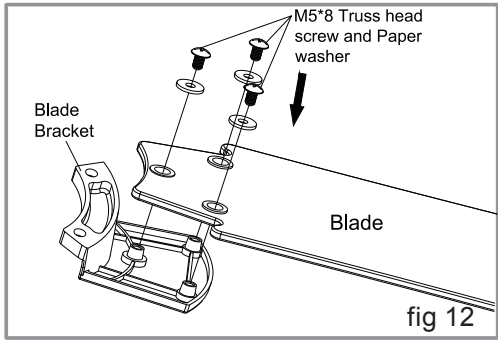

fig 12
- 1) Secure each blade to a blade bracket with screws and paper washer. Repeat five times.(fig 12)